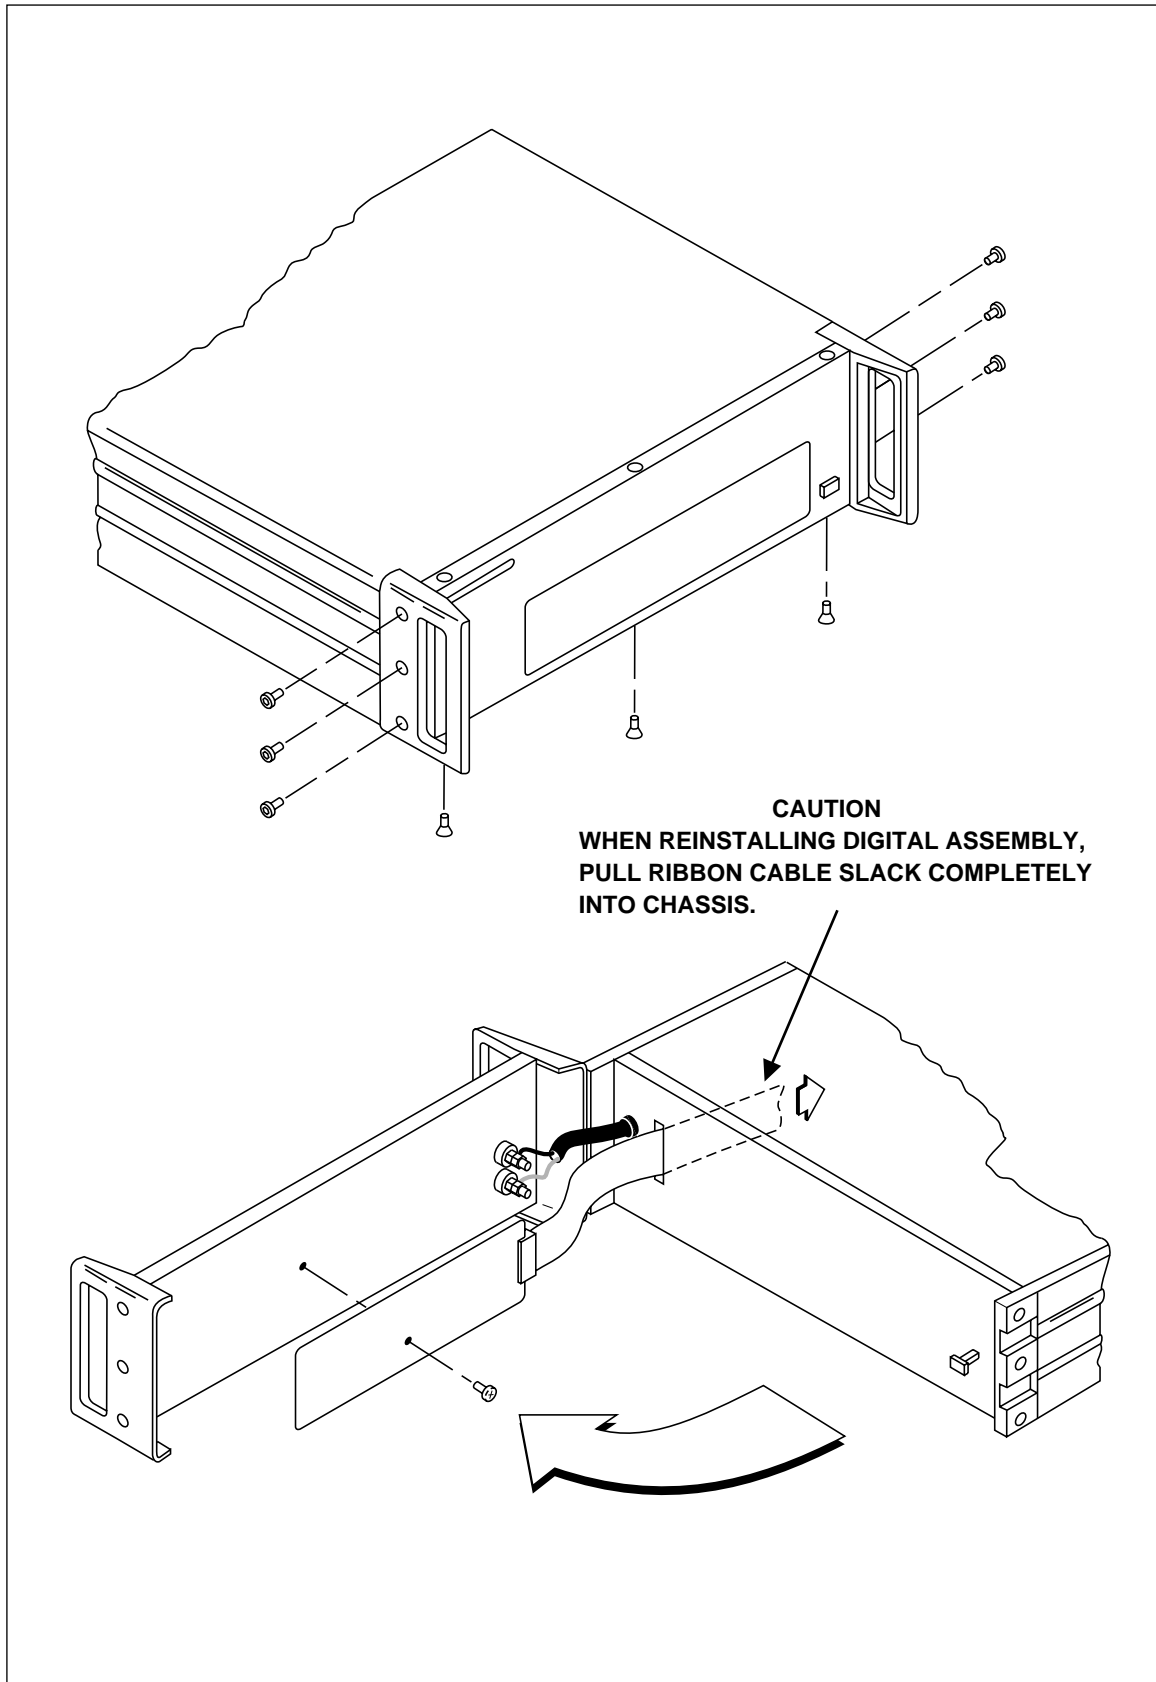

Figure 6-5. Accessing the Digital Assembly
2. Refer to Figure 6-5 for accessing the Digital assembly. Remove the six Allen-head screws from the sides of the front handles, and remove the three screws from the front edge of the bottom cover. (You have already removed the top cover in step 1.)